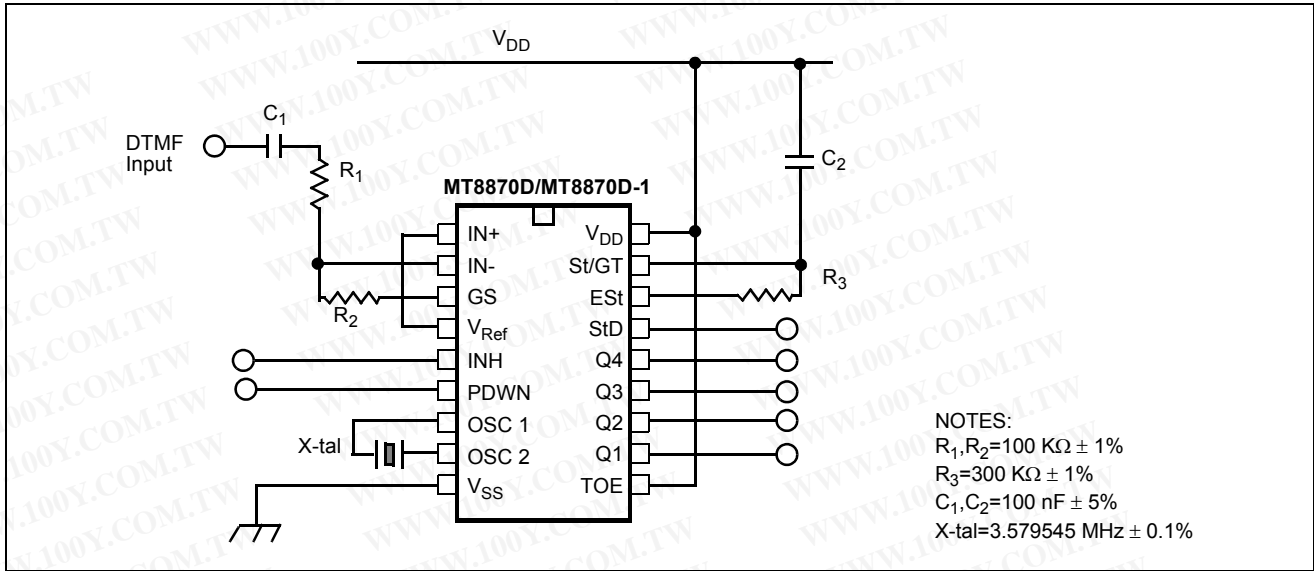

Figure 10 - Single-Ended Input Configuration
**MT8870D AC Electrical Characteristics**  $-V_{DD}=5.0V \pm 5\%$ ,  $V_{SS}=0V$ ,  $-40^{\circ}C \leq T_O \leq +85^{\circ}C$ , using Test Circuit shown in Figure 10.
**MT8870D-1 AC Electrical Characteristics** - $V_{DD}=5.0V\pm 5\%$ ,  $V_{SS}=0V$ ,  $-40^{\circ}C \leq T_O \leq +85^{\circ}C$ , using Test Circuit shown in Figure 10.
12. Referenced to Fig. 10 input DTMF tone level at -25dBm (-28dBm at GS Pin) interference frequency range between 480-3400Hz.
**AC Electrical Characteristics** -  $V_{DD}=5.0V\pm 5\%$ ,  $V_{SS}=0V$ ,  $-40^{\circ}C \leq T_o \leq +85^{\circ}C$ , using Test Circuit shown in Figure 10.